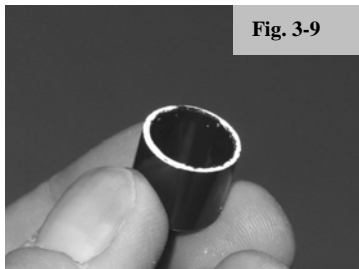

Fig. 3-9
- (1) The "white" ink end of the sleeve must be installed against the back of the knockout insert. (Fig. 3-9 & 3-10)